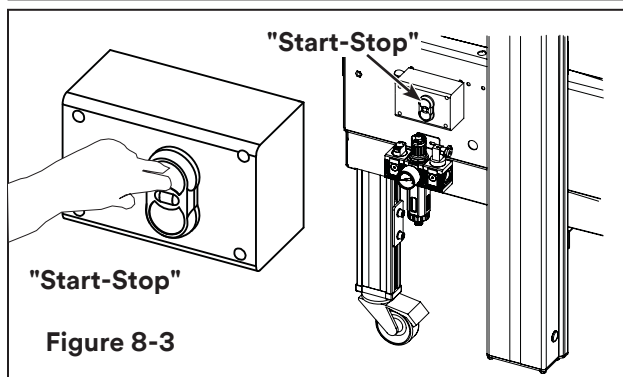

Figure 8-3
- The Push Button Station "Start" is pressed (Figure 8-3)